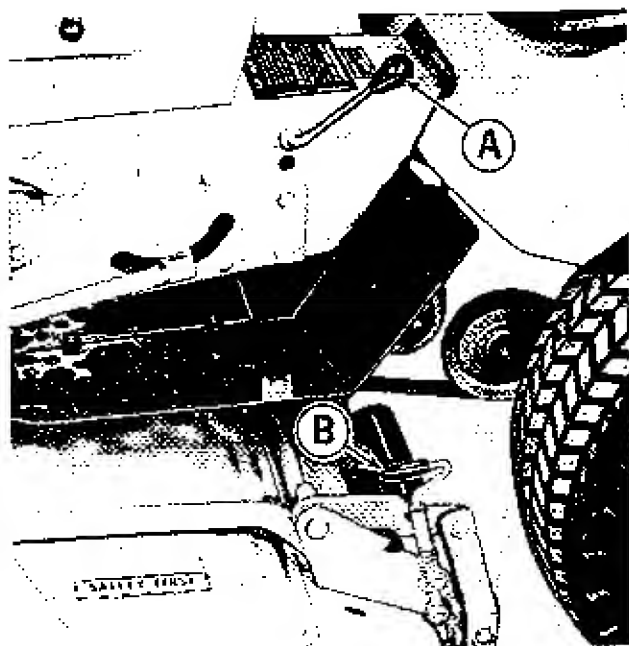
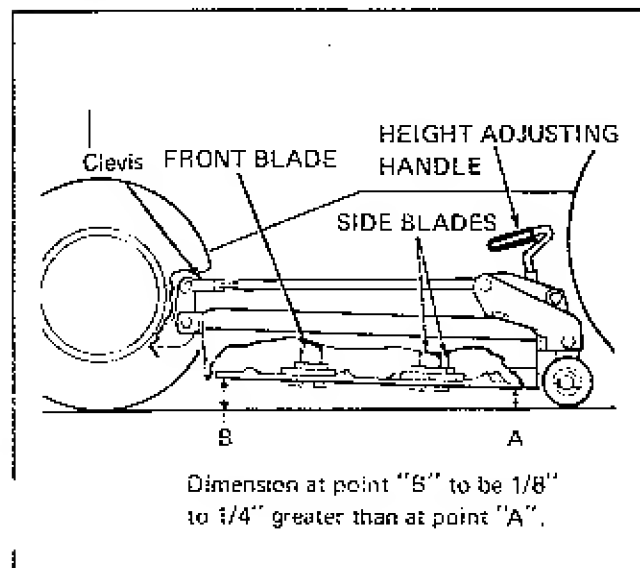

Figure 7. Left side of mower and tractor.
Figure 9. Mower viewed from left side.
See figure 7. After the tractor engine has been started and is running at about 3/4 full speed, the mower may be engaged by pushing forward on the tractor power take off control lever (Figure 7, Item A)
See figure 7. The cutting height of the mower is adjustable 1-5/8" to 3-1/8". To adjust the height of cut, turn the adjusting handle (B) on each side of the mower clockwise to raise the blades, and counter-clockwise to lower them. The two handles should be rotated the same direction and number of turns so they carry equal weight of the mower and keep the mower level. When the two handles require equal effort to turn, it is a good indication the mower is level. However, it is advisable to occasionally drive the tractor on a smooth level surface and check the height of the two outside blades to insure they are cutting at equal height.
See figure 9. To give the best mowing job, the mower should be adjusted so the front of the center blade (B) is 1/8" to 1/4" higher than the rear of the two outside blades (A) when the mower is setting on a smooth hard surface. If adjustment is required, proceed as follows:
5. See figure 9. Rotate the left mower blade so it is parallel
6. Turn the mower height adjusting handles, Figure 7, Item B, so the rear tip of the left blade, Figure 9, Item A, is two inches from the ground surface.
9. Turn the center blade so that the tips are pointing straight toward the front and rear. Measure the distance from its front tip to the ground surface (Figure 9, Item B). The distance should be 2-1/8" to 2-1/4", that is 1/8" to 1/4" more than the distance from the rear tip of the outer blades to the ground surface.